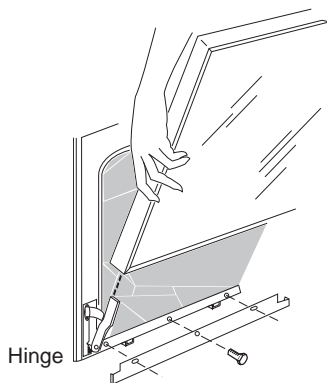

Fig. 3B
2. Grasp the door at each side and lift up and off the hinges (see Fig. 3B).
**IMPORTANT:** The trim provides cooling air entry into cabinet through the bottom opening. The bottom opening should never be blocked. See Fig. 3B.